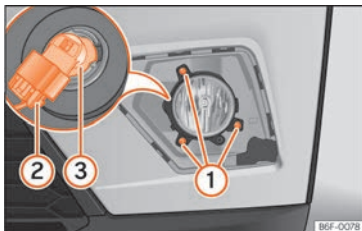

Fig. 56 Front fog light: remove the bulb holder
- Remove the 3 screws »» Fig. 56 ① and remove the fog light.
- Remove the bulb connector ②.
- Turn the bulb holder ③ to the left and pull.